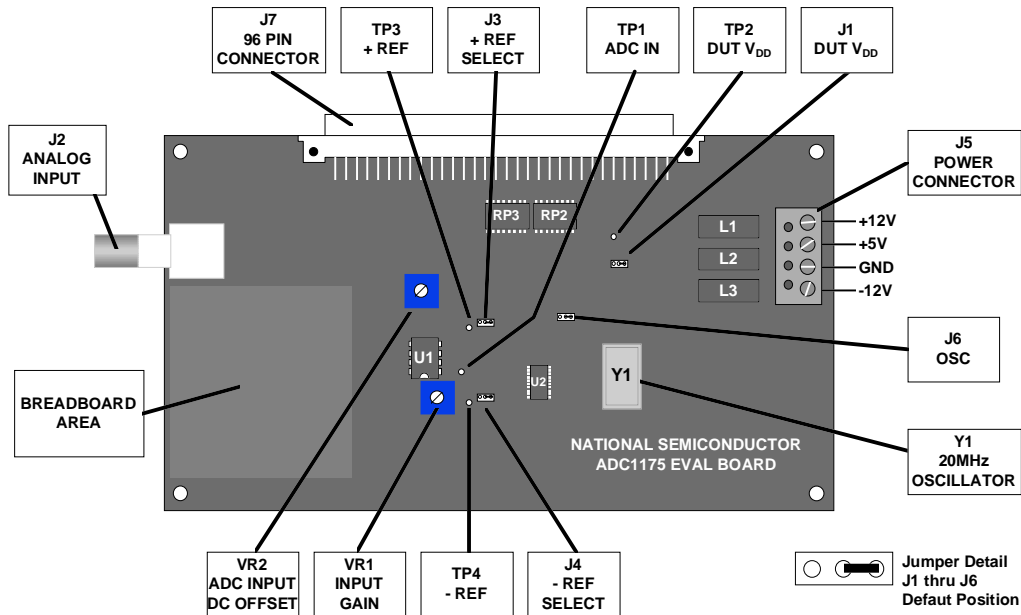
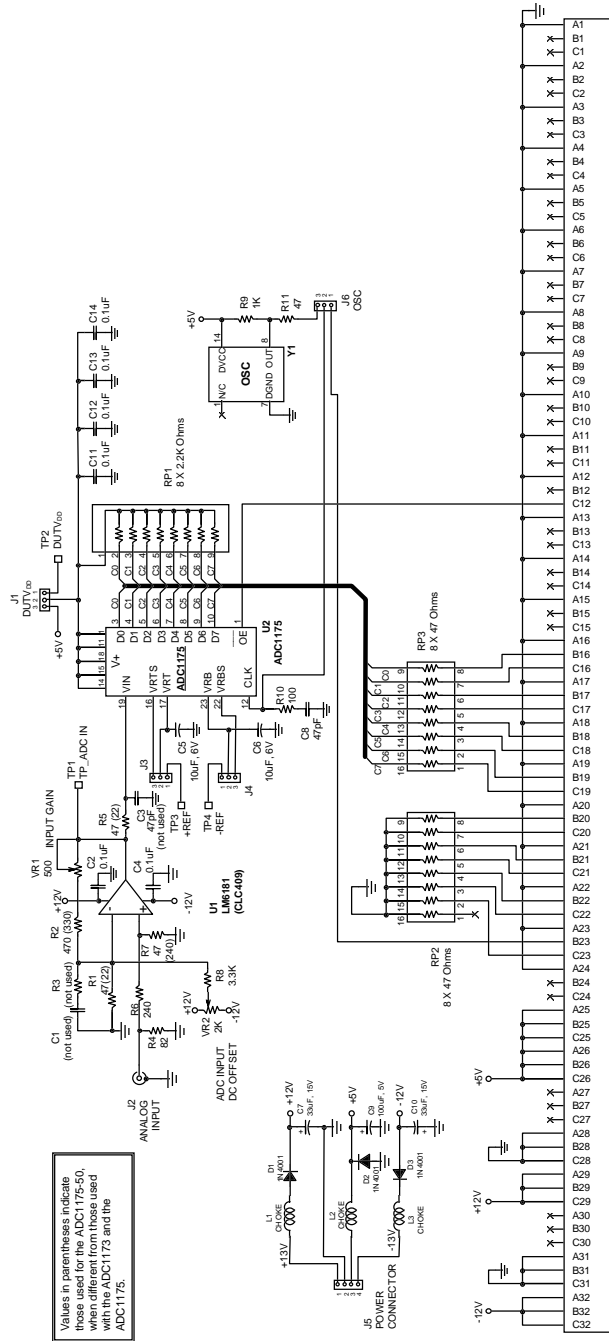

Figure 1. Indicators and Adjustments Locations. Jumpers are shown in default positions
Figure 2. Eval Board Schematic
The ADC1175EVAL Evaluation Board (consisting of the ADC1175 Evaluation Board and this manual) is designed to ease evaluation and design-in of National Semiconductor's ADC1175 20 Msps, ADC1175-50 50Msps and ADC1173 15Msps Analog-to-Digital Converters. When the ADC1175 is mentioned in this manual, the ADC1175-50 and ADC1173 are also included. The input circuitry for ADC1175-50 board is slightly different from the ADC1175 and ADC1173. See board schematic, Figure 2.
assembled. Refer to Figure 1 for the location of major components, to Bill of Materials (Section 8.0) for component description and part types and to Figure 2 for the Evaluation Board schematic.
Once the board is assembled, the following will allow you to get the board up and running quickly. The digitized signal is available at pins B16 through B19 and C16 through C19 of J7. See the Evaluation Board schematic in Figure 2 for details.
1. Be sure that all jumpers are in their default positions, as shown in Figure 1. If the ADC1173 is being used, set the jumper on J1 so that pins 1 and 2 are connected together and supply a source of 3V to TP2.
Figure 2 shows the schematic of the ADC1175 evaluation board. U2 is the device under test. This board supports the ADC1175, ADC1175-50, ADC1173 and ADCs with similar pin connections.
The digital data from the ADC1175 output, as well as a clock signal for this data, is available at the 96 pin DIN Connector J7 (See Figure 2). Pull-up resistors are used at the ADC1175 outputs to ensure adequate drive. Sending resistors (RP3)
Power for the ADC1175 can come from the 5V applied to Power Input Connector J7, or from an external 3V to 5V supply applied to TP2. Selection of the ADC1175 supply source is with Jumper J1. See Figure 1.
Follow these steps to operate the board in the Computer mode. Refer to Figure 1.
Then capture another waveform with the offset adjust potentiometer, VR2, set to give an average code of about 192 at the ADC output. This would correspond to an input DC potential of about 2.1V at the ADC input (TP1, Figure 1 and Figure 2). Measure the peak-to-peak level of this signal. You might want to open a new window for this second waveform capture, so that both levels may be displayed at once.